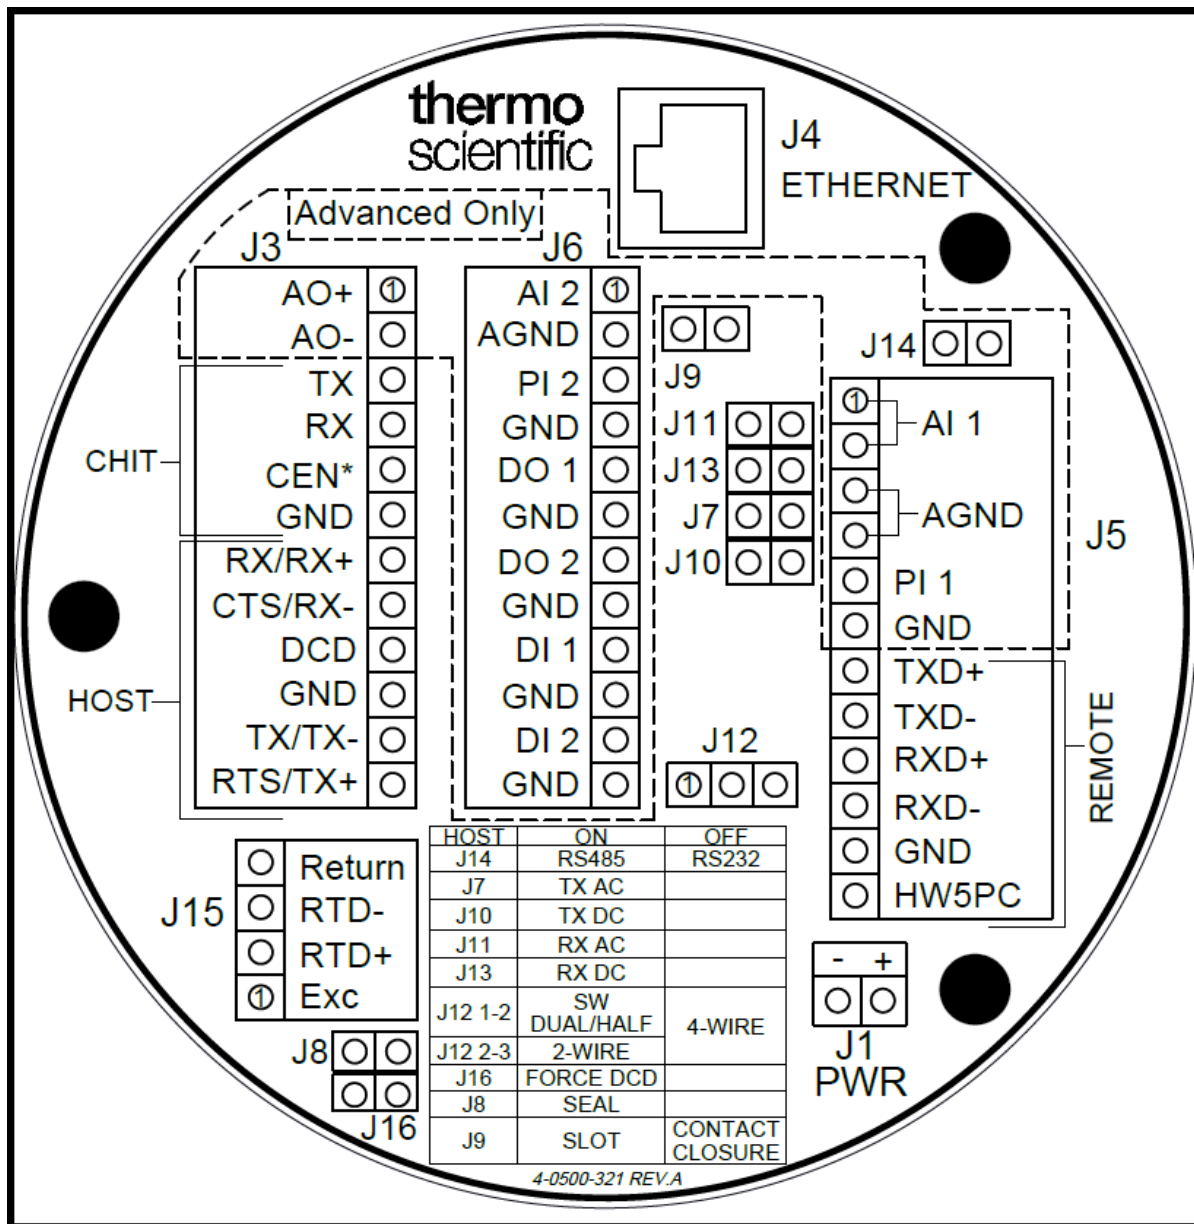

Figure 2-3. Terminal Board
Each local analog input provides a transmitter signal input (IN), and a transmitter signal return (AGND). The analog inputs on the terminal board are identified in the following Figure 2-3.